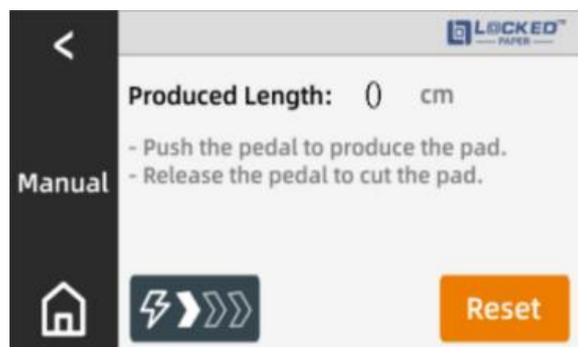

Figure 5.2
- 1) Click  on the Home page to enter the Manual mode interface (Figure 5.2);